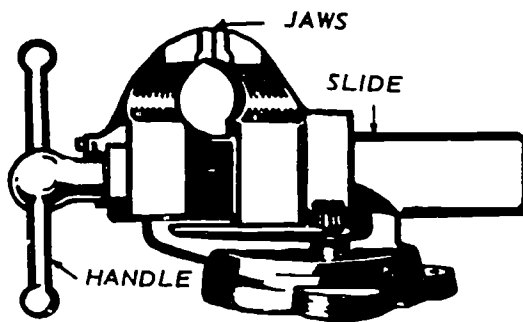

Figure 3-15. Bench vise.
**Vises.** A bench vise, such as that illustrated in figure 3-15, is a very important piece of equipment in the sheet metal shop. Bench vises are manufactured in many sizes and designed for different jobs. A vise with a 4- or 5-inch jaw is commonly used in sheet metal shops to hold material for filing, forming, or sawing. The removable jaws are each secured with two screws and are usually grooved to keep the material from slipping. When working with soft metal, you should use jaws which are made of brass or aluminum and which are not so likely to mar the material being held. If jaws of soft metal are not available, use blocks of wood as a substitute.